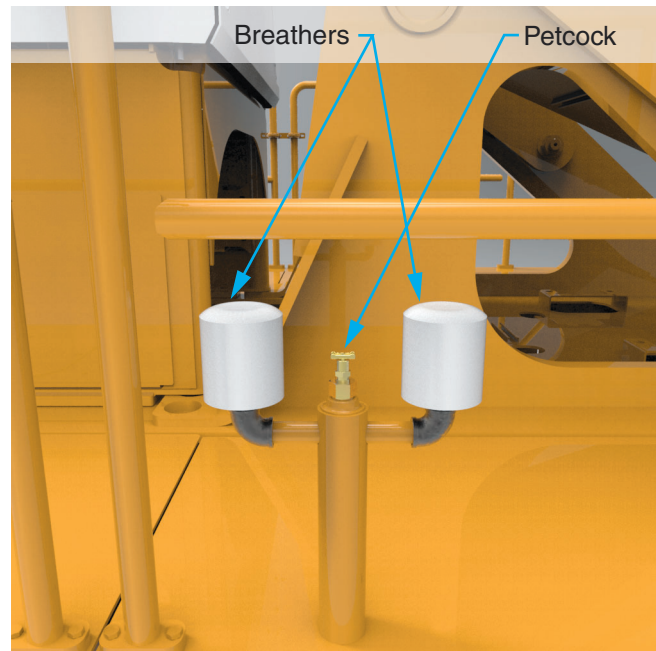

Figure 14 Hydraulic Tank Breathers
3. Relieve pressure in the tank by opening the petcock between the breathers. See Figure 14.